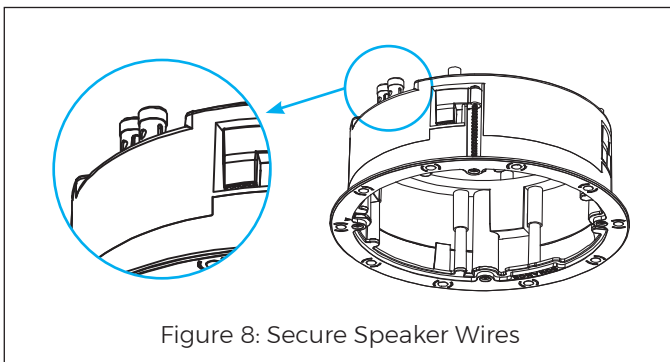

Figure 8: Secure Speaker Wires
- Secure the speaker wires to the speaker frame using the spring loaded connector posts (see Figure 8).